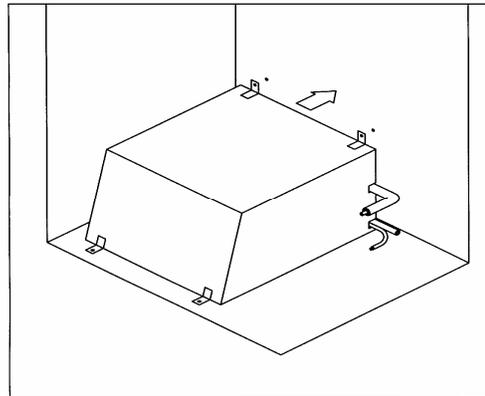

Figure 8.2 Refrigeration Unit Housing
3. Remove the refrigeration unit housing (refer to Figure 8.2).
- a. Locate the notches on the back right corner of the housing (refer to Figure 8.2).